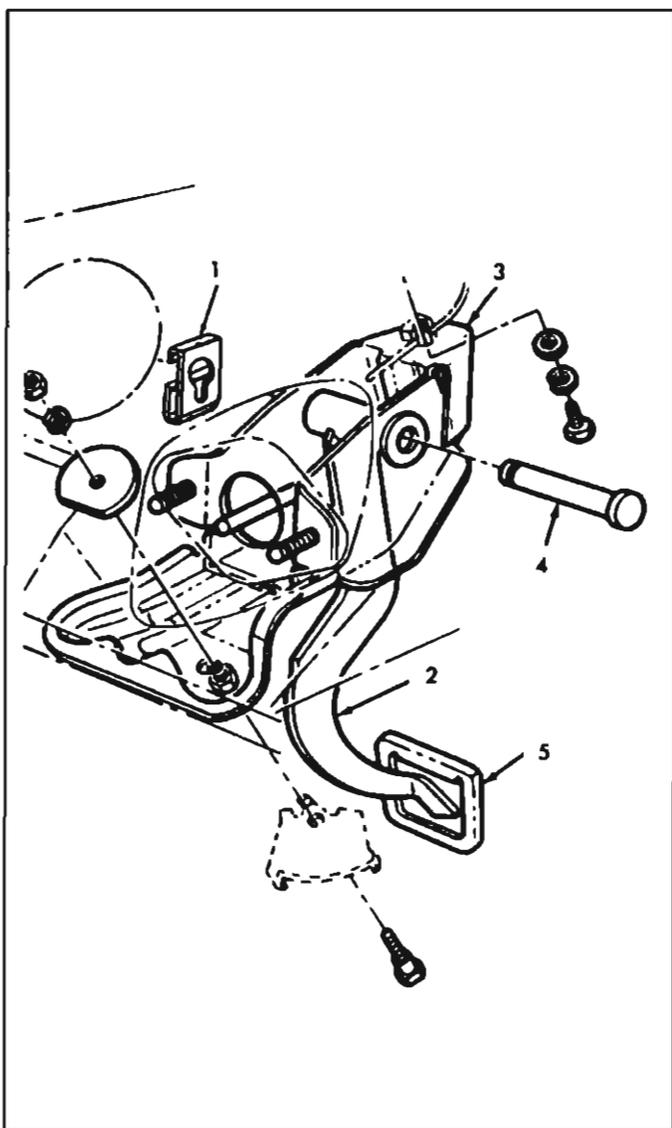

Fig. 5-6—Brake Pedal Installation
- Remove pedal stop and stop light switch from pedal support bracket (fig. 5-6).